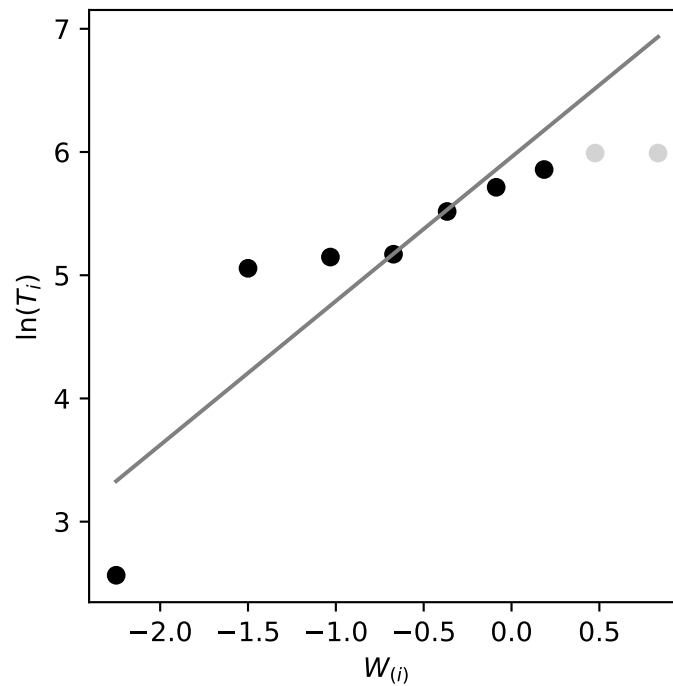

Fig. 9.4: Weibull probability plot
**Solution 9.21** The  $Q-Q$  plot is given in Fig. 9.4.